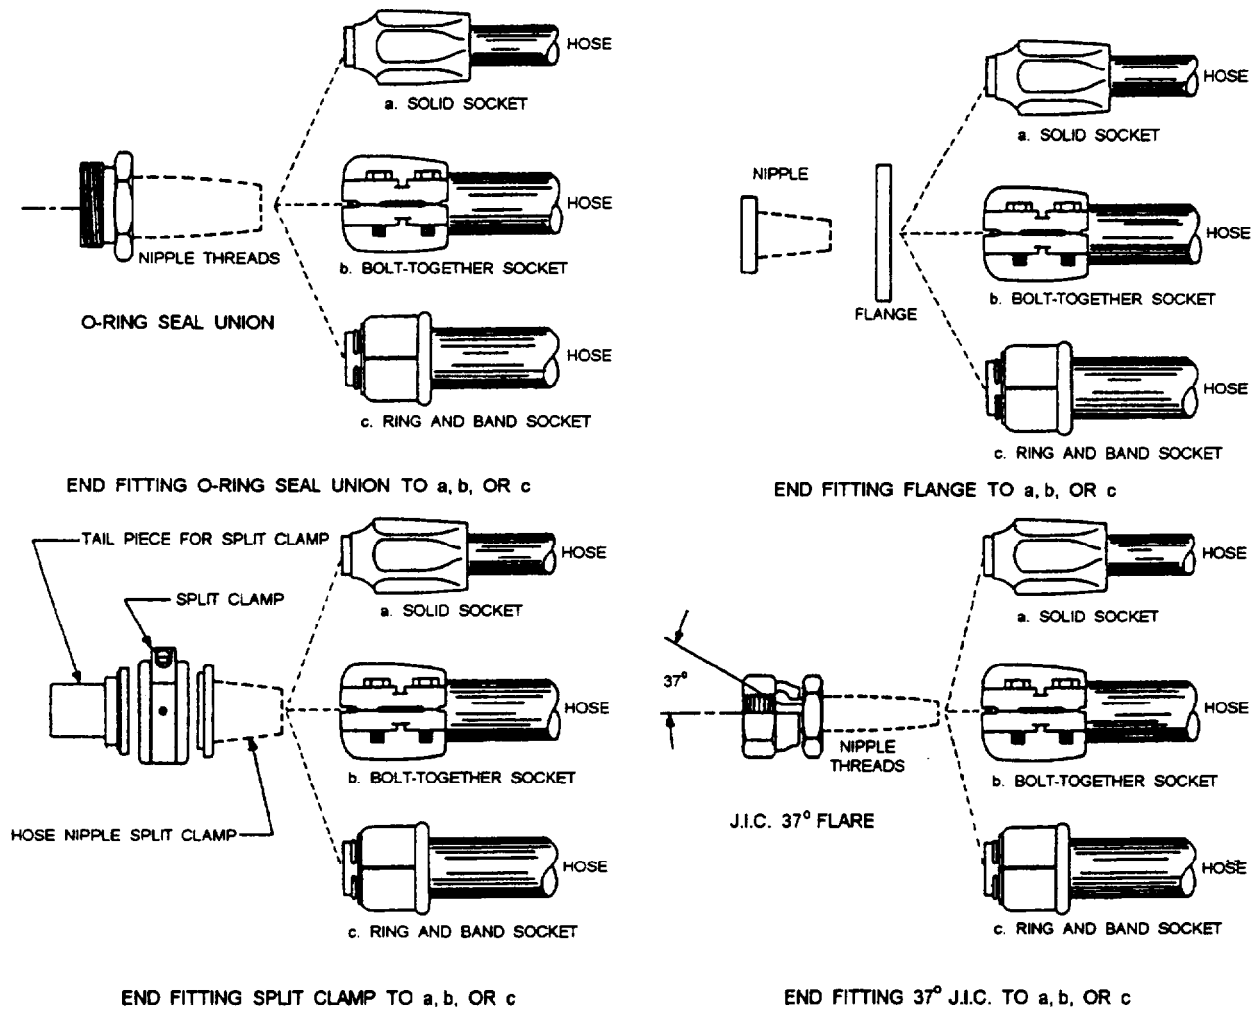

Figure 3-43.—End fittings and hose fittings.
**FLEXIBLE HOSE CONNECTORS.**—Flexible hose connectors are designed to be either permanent or reusable and are made of forged steel. There are various types of end fittings for both the piping connection side and the hose connection side of hose fittings (fig. 3-43).